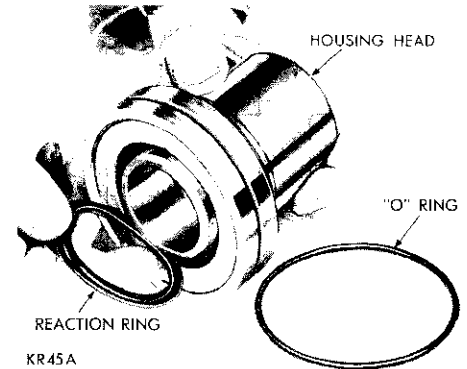

Fig. 11—Installing Reaction Seal Into Housing Head
(28) Lubricate and install the reaction seal in the groove in the face of the housing head with the flat side of the seal out (Fig. 11).
(29) Remove the two "O" rings in the two outer grooves in the cylinder head.